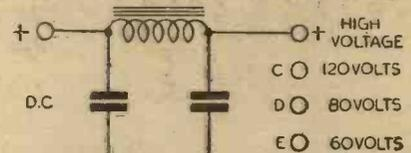

Fig. 2.—Indicates possible voltage tappings required for an average installation.
From Ohm's Law, which, as every constructor should know, states that for a D.C. circuit "the current (I) flowing equals the voltage (E) divided by the resistance (R) of the circuit," it will be seen that before any arrangements can be made for voltage dividing or dropping, two factors must be known. Let us consider Fig. 2, which is intended to represent possible voltages which might be required, and as the voltage (Fig. 1) will have to be reduced by resistances to the lower values, it will be appreciated that the current consumption of the circuits which will be connected to the points C, D and E must be known, either by measurement or calculation, before the necessary resistance values can be determined. For example, supposing that the voltage at A is 200 volts, and that the current flowing in C, D and E is 10 mAs, 5 mAs and 2 mAs respectively. How does one calculate the resistance values?